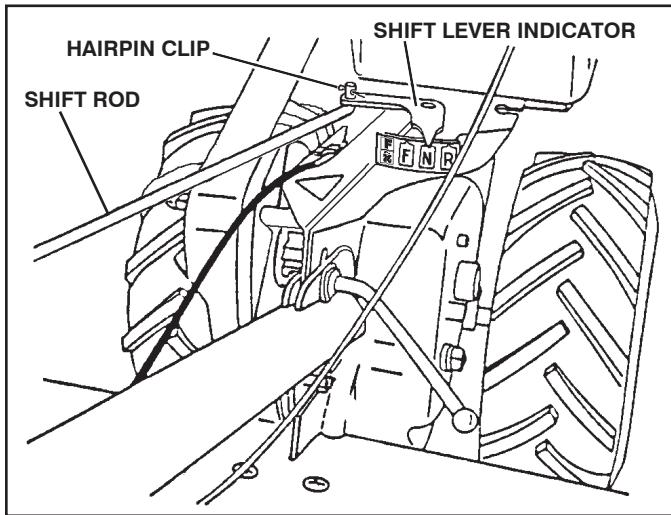

Fig. 6
CONNECT SHIFT ROD (See Fig. 6)
- Make sure shift lever indicator is in "N" position (See Fig. 6)